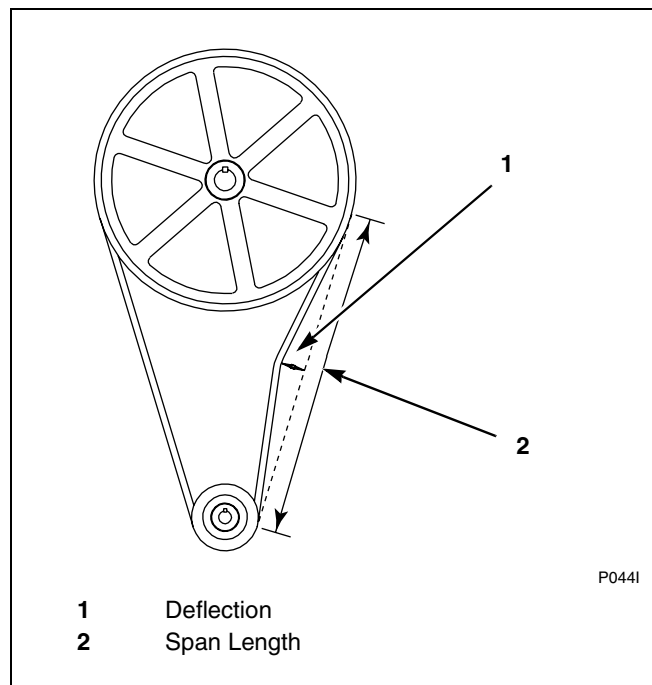

Figure 12
- **Deflection.** Refer to *Figure 12*. Loosen motor mounting bolts and slide motor along motor plate to change belt span length. Belt tension measurements should be taken as close to the center of the belt span as possible. For every inch of span length, the belt should deflect 1/64 inch (0.40 mm). Thus, a belt with span length of 50 inches should deflect 50/64 inch (19.84 mm). An initial (run-in) force of 5.25 pounds should be used to set the belt tension. An operating (normal) force of 3.5 pounds should be used after the washer-extractor has been operated for a few hours.